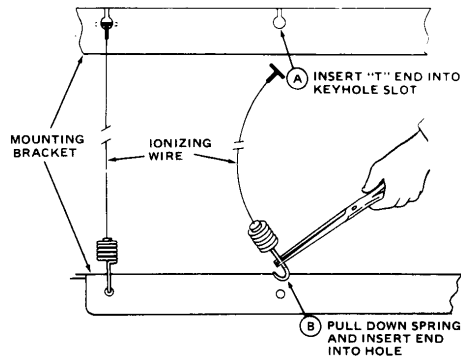

FIGURE 16 – METHOD OF REPLACING THE IONIZING WIRE
1. Remove all of the broken wire from the cell mounting brackets. See Fig. 16.